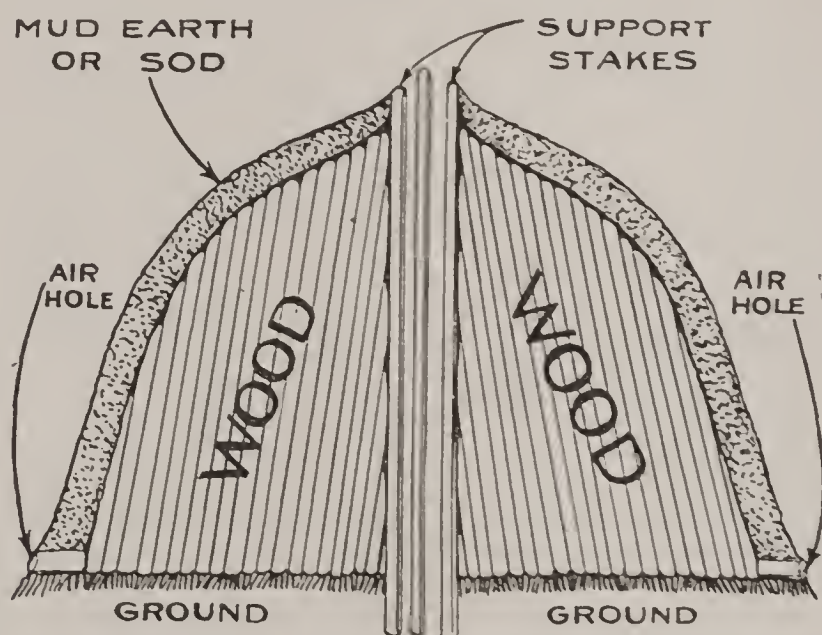

FIG. 142.—Cross-Section of a Charcoal Kiln.
a little space between the sticks, as shown in Fig. 142. This done, plaster it all over with mud so that the air cannot get through it to the sticks and then make a dozen holes, about 1 inch in diameter, through the mud covering, around the base, and also let the top remain open. This is so that when you light the wood the gases will slowly burn out of it and yet not burn the carbon (C) there is in it.